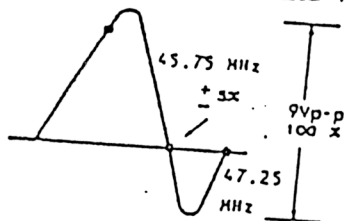

Fig. 5a
2. Adjust T304 so that picture carrier 45.75 MHz is centered as in Fig. 5a.